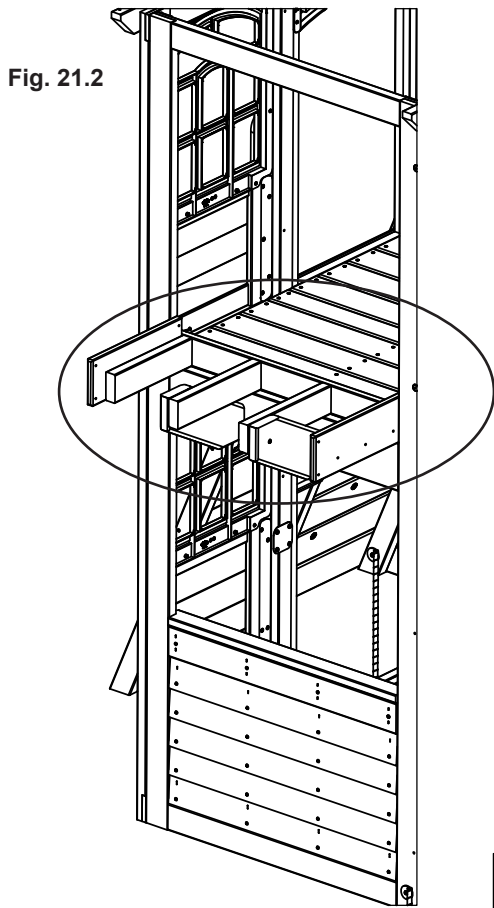

Fig. 21.2
**B:** Place the Lower Crowsnest Assembly from Step 19 centred in the opening of (022) Slide End Panel, in between (211) Crowsnest Bottom Sides, tight to the top of the floor boards then attach with 2 (S11) #8 x 2" Wood Screws per side. (fig. 21.2, 21.3 and 21.4)